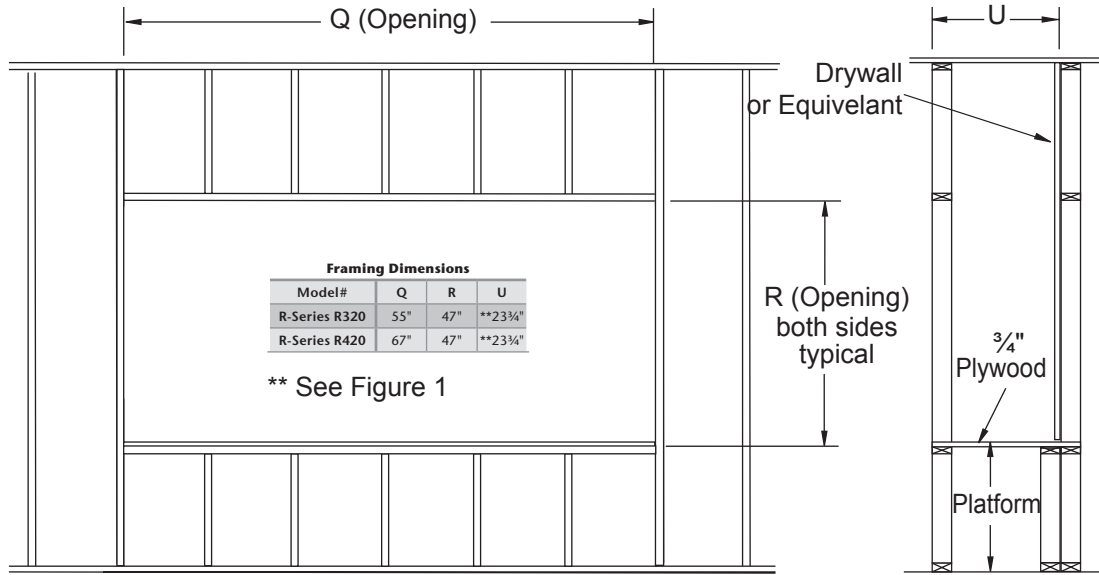

Figure 2. Fireplace installation, (Rough Frame-In dimensions) Both Sides are Typical.
**Step 1.** To ensure your glass viewing area is at the optimum height, follow the Example below, Figure 2. Example: If you wish to have the bottom edge of the glass to be 24", the